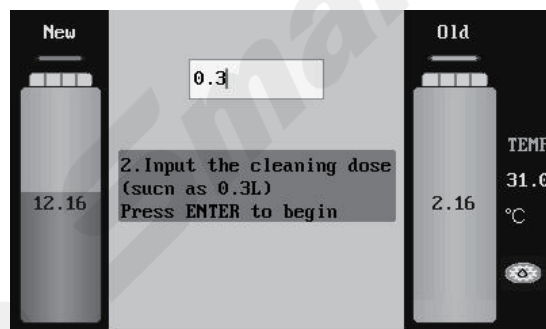

Fig.39
- 12) According to the prompts on the interface, load a certain amount of detergent to a standard measuring cup, and then press ENTER key to continue. The interface is as shown in Fig.39.